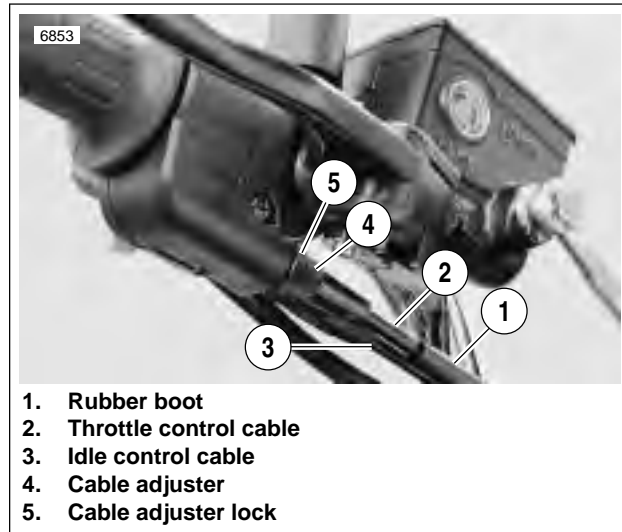
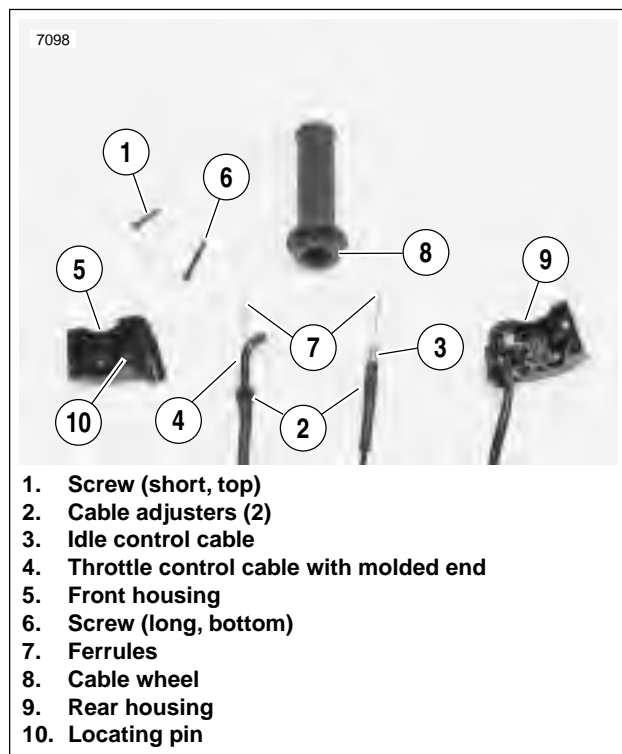

Figure 2-61. Throttle Control Cables
Figure 2-62. Cable Connections
1. See Figure 2-61. Slide rubber boot off the cable adjusters. Loosen cable adjuster lock on each adjuster.
2. Turn adjusters (4) in direction which will shorten cable housings to minimum length providing freeplay in both cables.
3. See Figure 2-62. Remove two screws on front housing. Separate housings from handlebar.
5. See Figure 2-62. Unhook ferrules from cable wheel.
4. See Figure 2-62. Position ferrules on cable wheel.